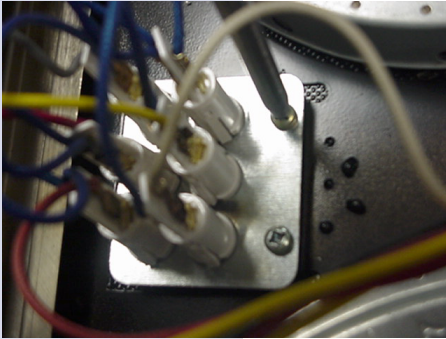

Figure 9
5. Remove the 2 screws fixing the bracket of the lights to the cooktop. (Figure 9)